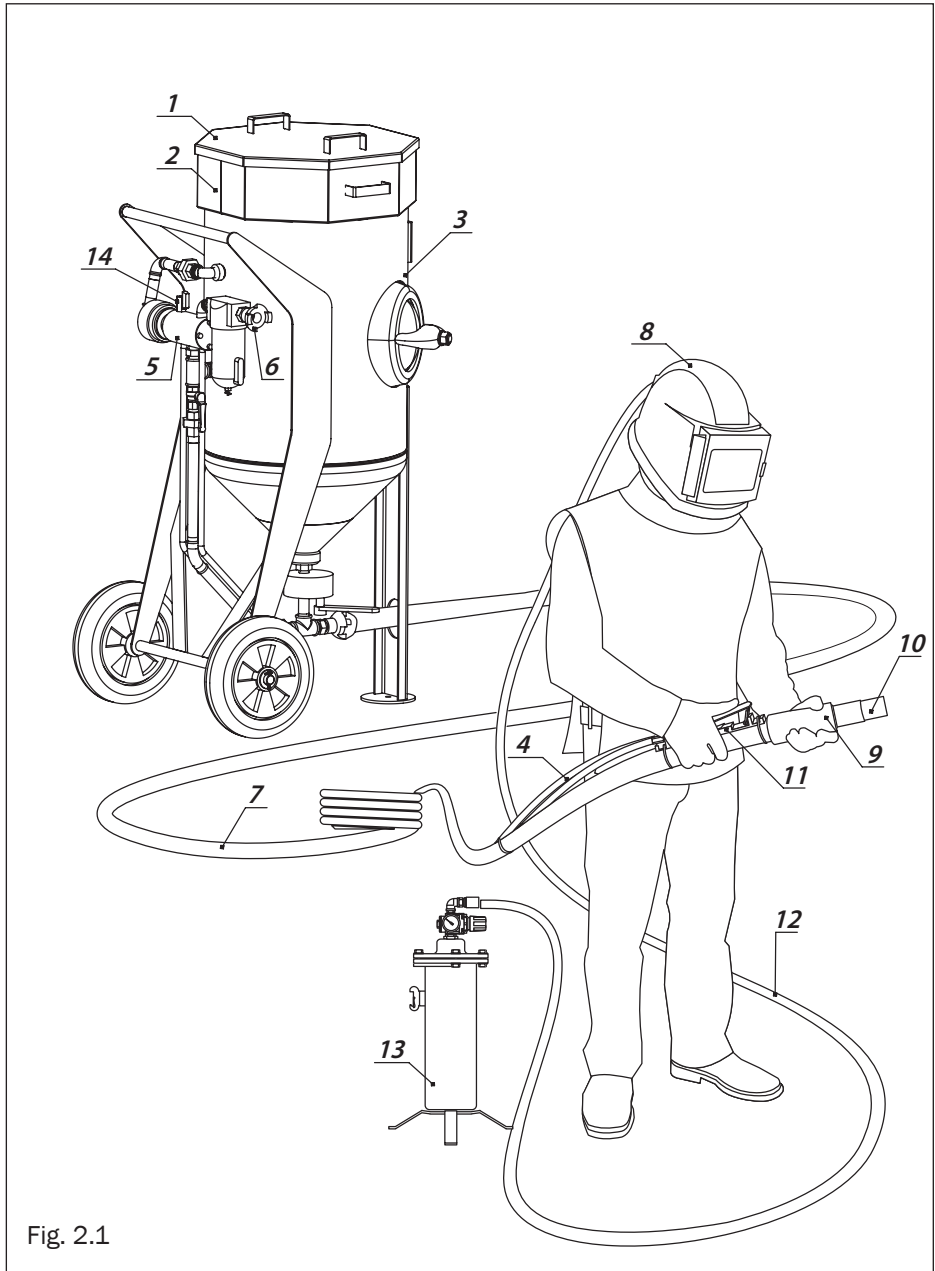

Fig. 2.1
10. Open the safety ball valve 14 (Fig.2.1).